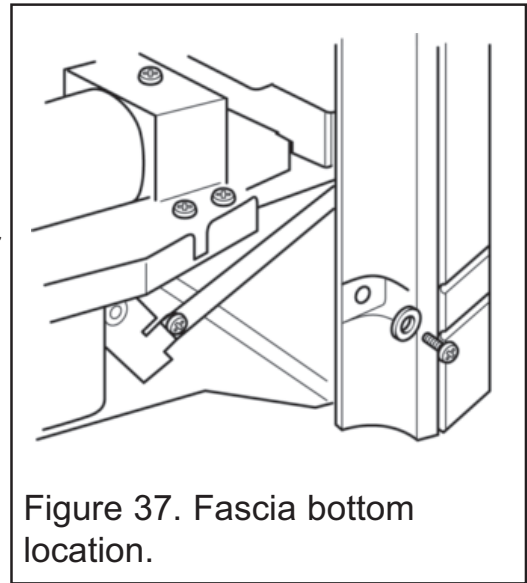

Figure 37. Fascia bottom location.
- ii)* Remove the two screws (and washers where fitted) securing the bottom of the fascia to the sides of the convection box (See figure 37).